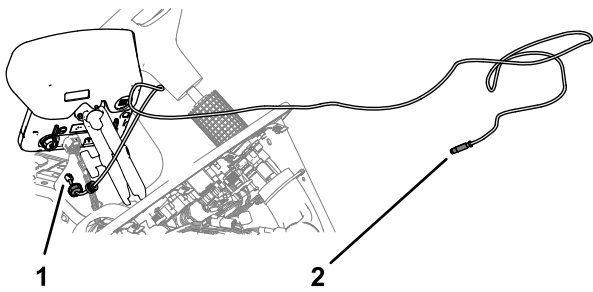

Figure 157
1. Align the modem data harness with the RS-232 connector labeled X-CONSOLE toward the sprayer monitor (Figure 157).